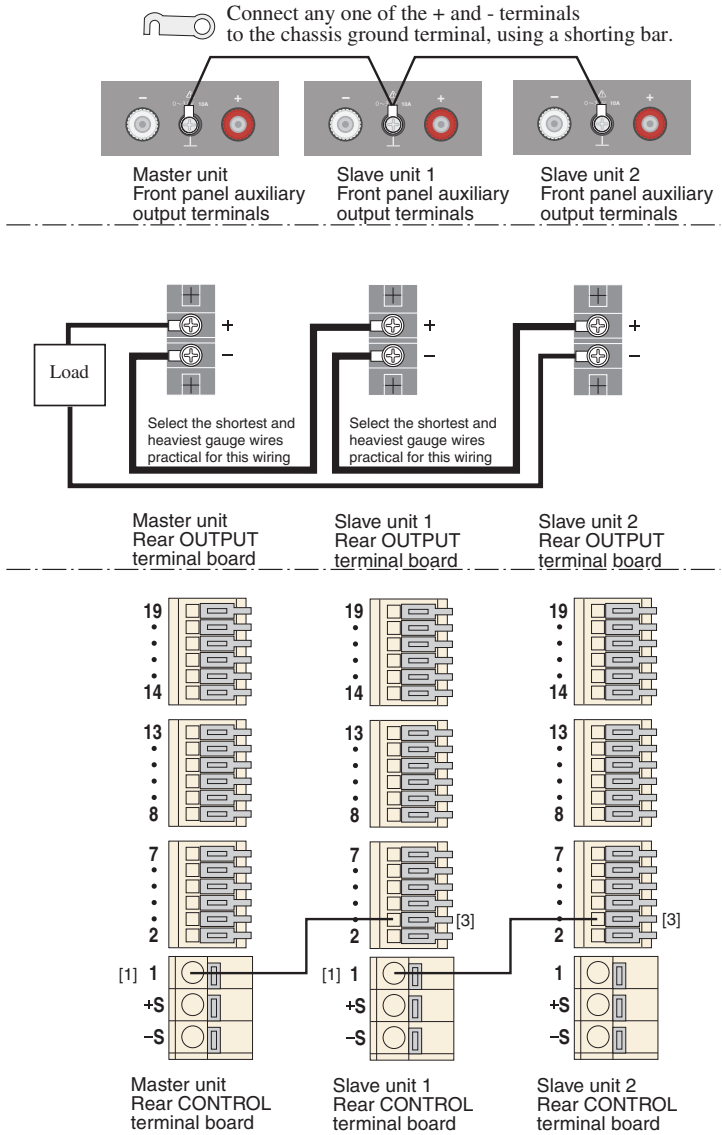

Fig.4-22 Connection for master-slave-control series operation
6. Connect the master unit and slave units shown in Fig.4-22.
Fig.4-22 shows an example of how the rear output terminals are connected in series for two slave units.